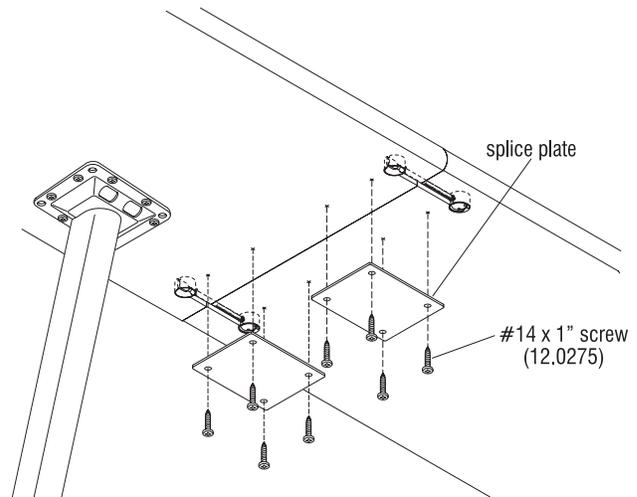

Figure 4
11. Per the space-planning layout, secure the required number of 5" x 5" splice plates over the joint using four #14 x 1" screws per plate, torqued to 100 in/lb. Continue securing all joints with adhesive, KV joint fasteners and splice plates along the run of worksurfaces (Figure 4).